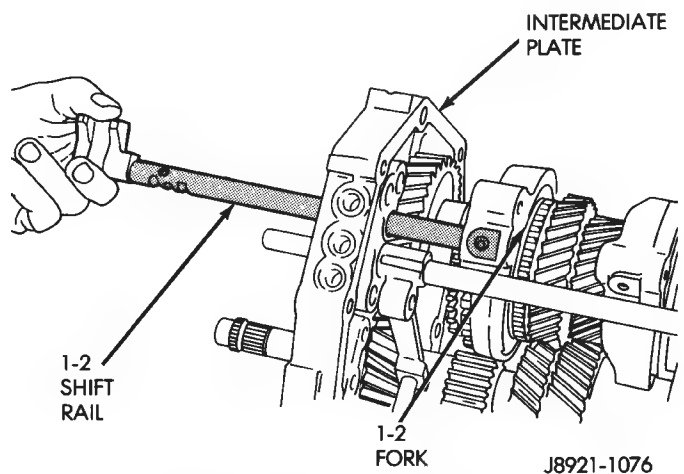

Fig. 46 Removing 1-2 Shift Rail
- (6) Remove 1-2 shift rail from shift fork and intermediate plate (Fig. 46).